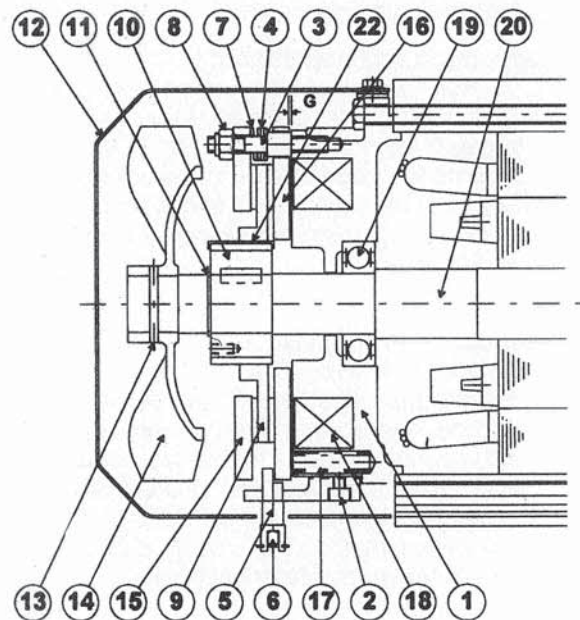
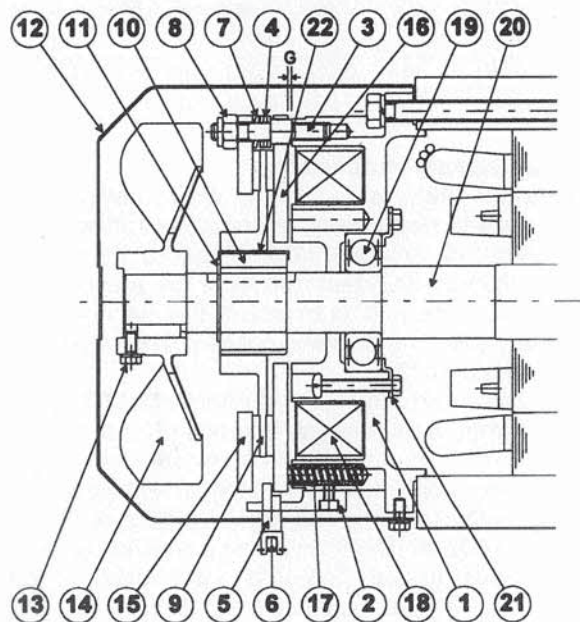

Fig. C-5 FB-5B, FB-8B Models
Fig. C-6 FB-10B, FB-15B Models
Fig. C-5 and Fig. C-6 illustrate the construction of the brake. Among the brake parts, stationary core (1), solenoid coil (18), and stud bolt (3) constitute an integral sub-assembly unit. The armature plate (16) is kept from rotating by the stud bolt (3), but moves axially by electromagnetic attraction and the tension of the pressure spring (17). The adjusting washer (4) and spring washer (7) hold the brake shoe (15) against the nut (8) at all times. The brake lining (9) is fit to the hub (10), which is secured to the motor shaft with a key. The solenoid coil is energized via a rectifier provided within the terminal box.